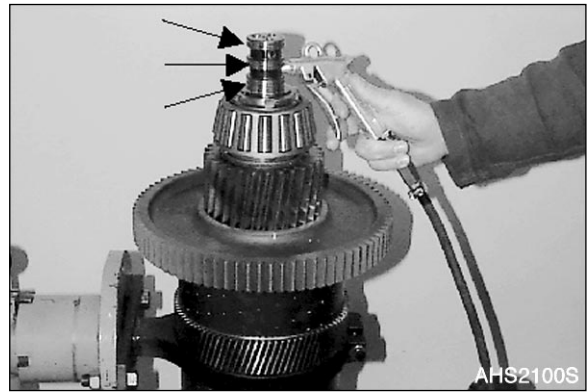

Figure 250
- D. D. Check function of clutches K3 and K4 using compressed air (Figure 250).